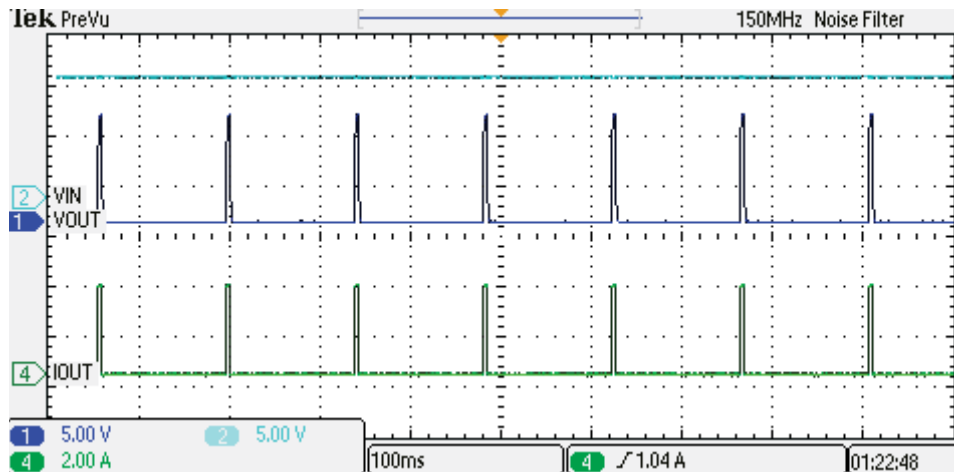

Figure 5. J4 = LO Current Limit Test Auto Retry (CH1)
- Note: Since the pulse width of current can vary significantly with the VIN ramp rate, which varies from one power supply to another, do NOT worry about matching the pulse widths of Figure 5 and Figure 6.